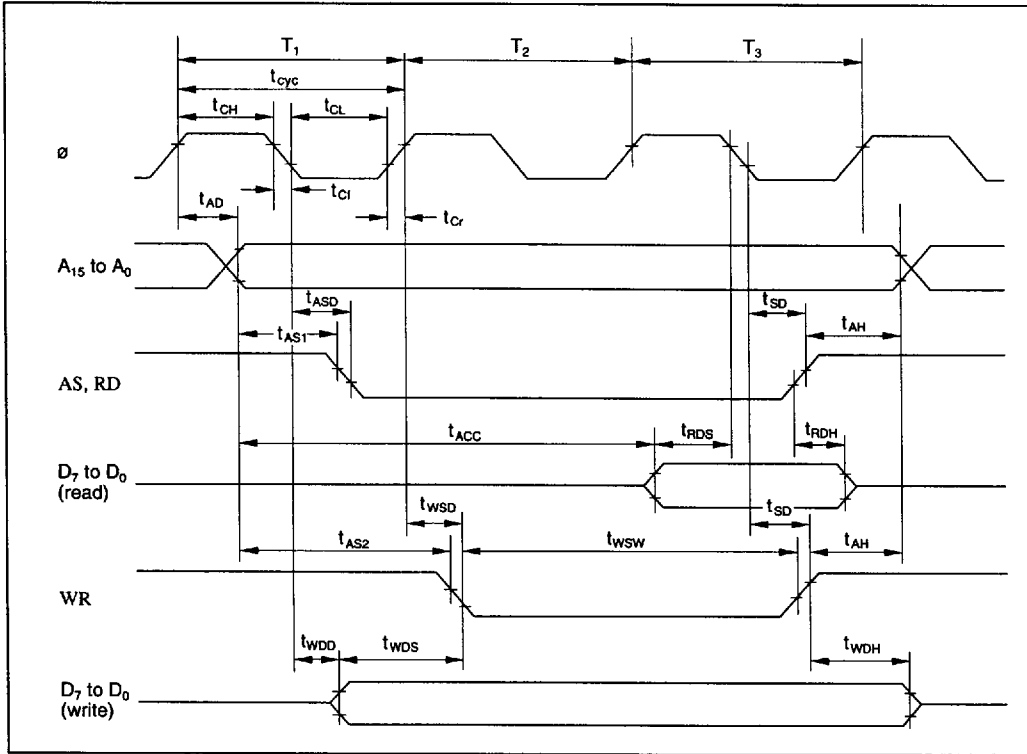

Figure 22-4 Basic Bus Cycle (without Wait States) in Expanded Modes
22.3.1 Bus Timing	Figures 22-4 and 22-5